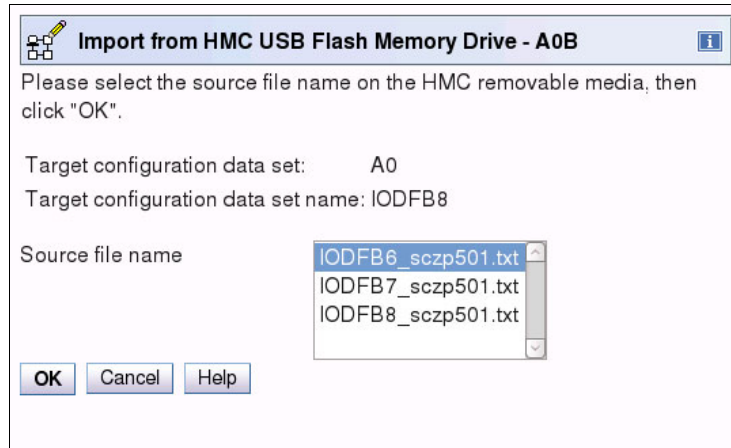

Figure 8-121 HMC - SAIOCP: select source file
13. Select the source file name and click **OK** (Figure 8-121).